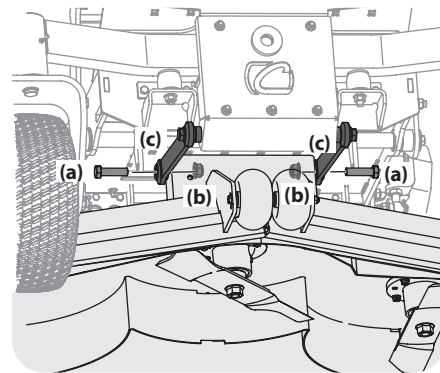

**Figure 4-20**
5. Remove the four lynch pins (a) that secure the deck to the deck lift assembly. See Figure 4-20.